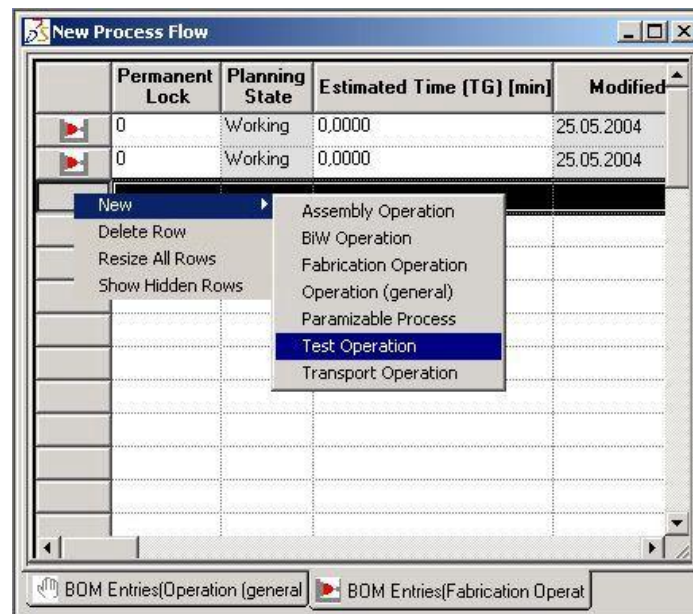

Figure 148: Create New Object – with Configured Plantypes
You can open a table only on a node, which has been assigned a further hierarchical structure. This structure can be made up of different plantypes which are independent of the plantype set used in the project. In the context menu of the table view (context menu for a line), the configured plantypes for which you can create new objects are shown. *Please refer to the Figure 148.*
- 3) Select **New** and then select the corresponding plantypes. In Figure 148, the plantype Test and measuring operation is shown. The new object is immediately shown in the table.